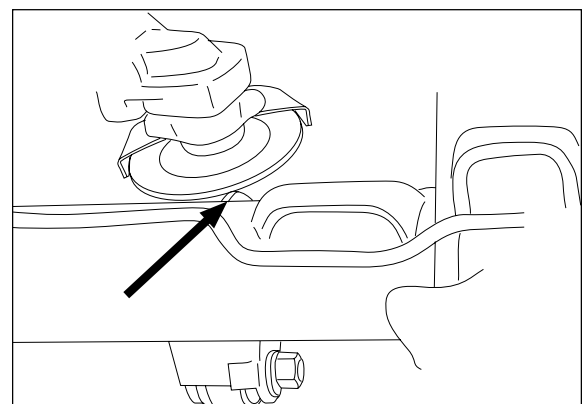

Figure 7
4. Due to manufacturing tolerances, the shock mounting bracket may stop the lower bracket from sitting completely flat on the axle housing/jounce bumper pad. This may occur on only one side of the vehicle. In such instances, it will be necessary to use a grinder to trim the shock bracket until it is flat with the top of the axle housing (Figure 7).